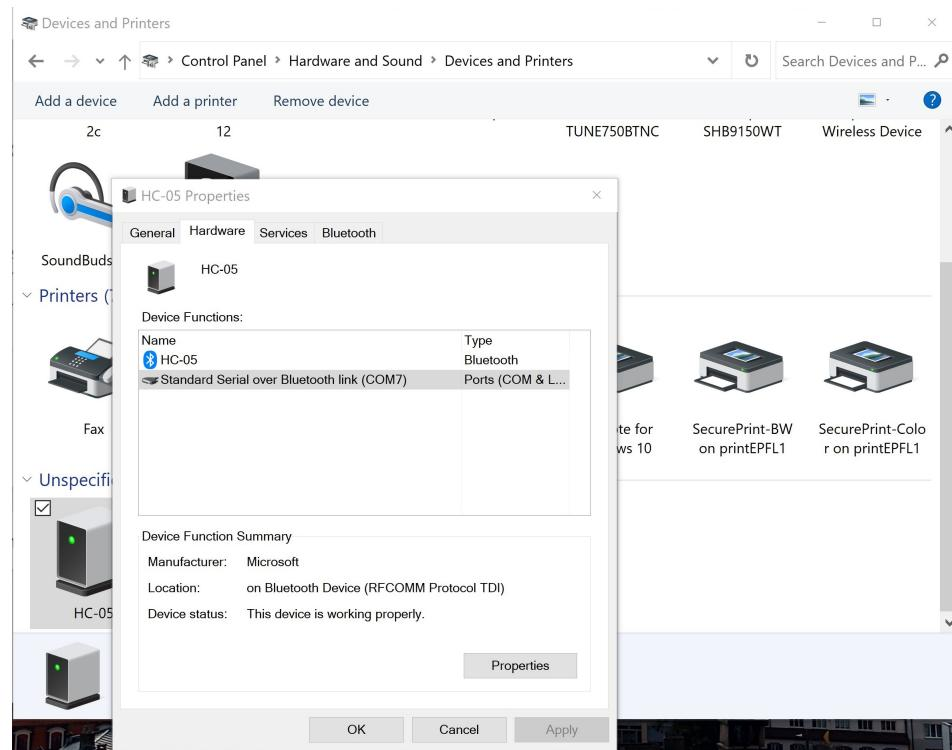

Figure 6: Type of device communication
No Bluetooth connection: Check the device connection with your electronic tablet or laptop. Verify in the list of the devices that the Bluetooth (BT) module is connected as a Standard Serial over Bluetooth link (COM...). This verification can be done by accessing the device window following this path Control Panel/Hardware and Sound/Devices and right click on your moduel HC-05. (Figure.6 in Annexes)